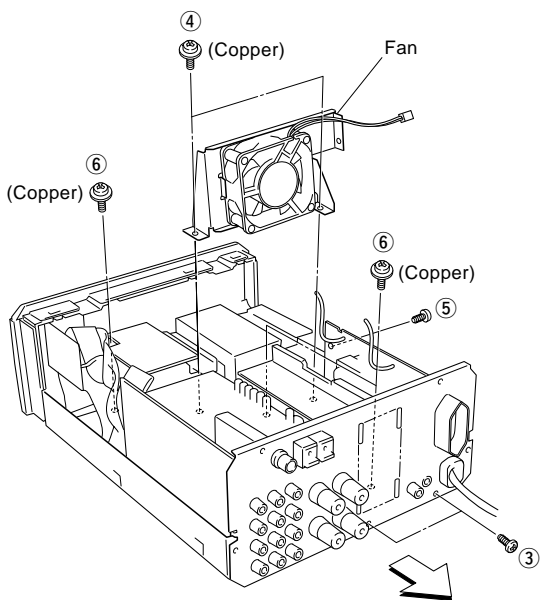

Fig. 2
- b. Remove 2 screws ( ③ ) attaching the rear panel to the chassis. (Fig. 2)
- d. Remove 3 screws ( ④, ⑤ ) attaching the fan to the chassis and then remove the fan. (Fig. 2)
- e. Remove 3 screws ( ⑥ ) attaching the Main P.C.B. to the Heat Sink. (Fig. 2)
- g. Move the Amp Unit toward the rear. (Fig. 2)